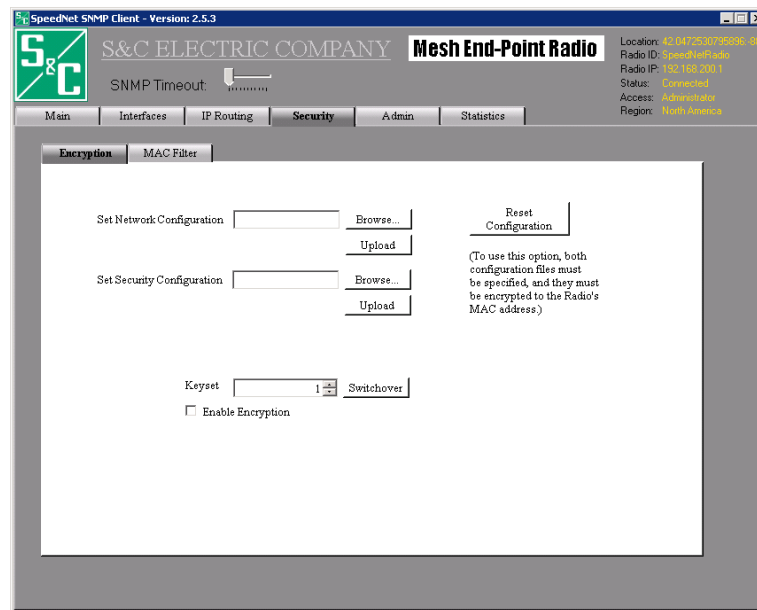

Figure 63. Security encryption configuration window.
The **Encryption** tab, shown in Figure 63, can be used to enable or disable encryption, change encryption keysets, and upload network and security configuration files. The following parameters can be configured.
- **Upgrade**—After selecting the firmware file, click the **Upgrade** button to initiate an immediate firmware upgrade. The SpeedNet ME Radio will prompt for reboot at the conclusion of the upgrade. Power should not be cycled while a radio is upgrading firmware. You will need to log in to the radio again once the post-upgrade reboot is completed to do further work with the radio. It is recommended that users log in to the radio after the post-upgrade reboot and confirm that the new firmware has loaded by accessing the configuration window shown in Figure 63 on page 41.